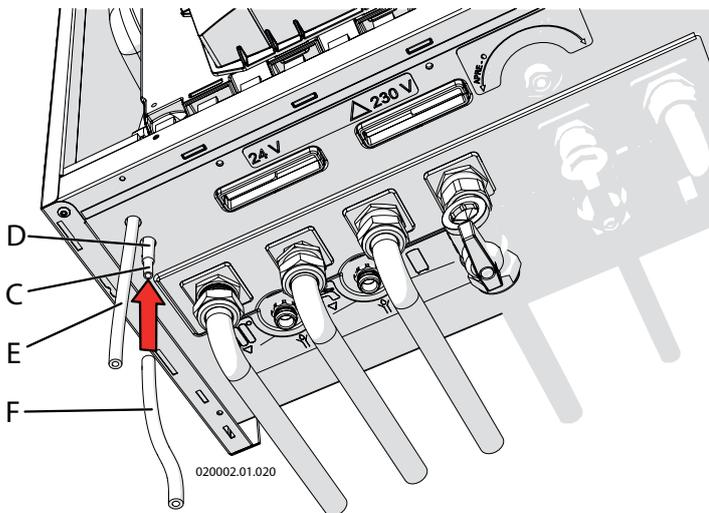

Figure 6.11 - Controlling combustion agent air pressure
- 9.- insert pipe "E" into the hose as indicated in figure 6.11;